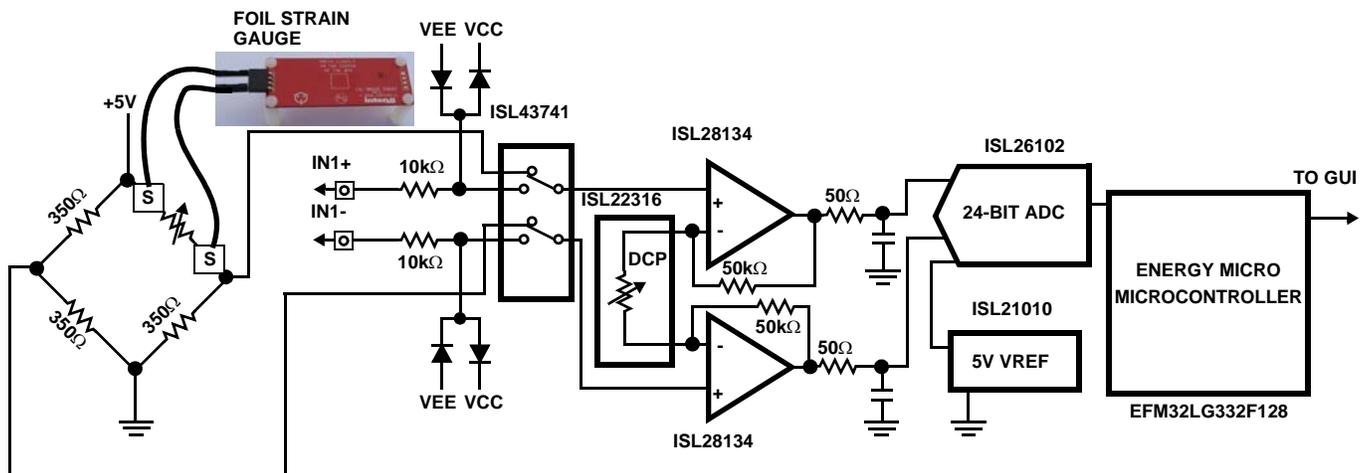
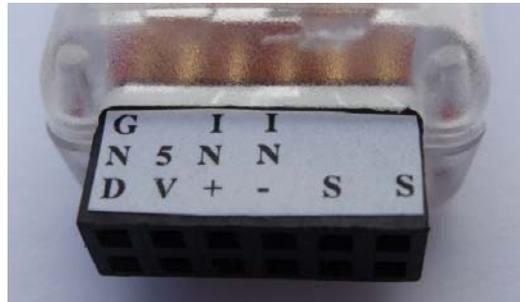
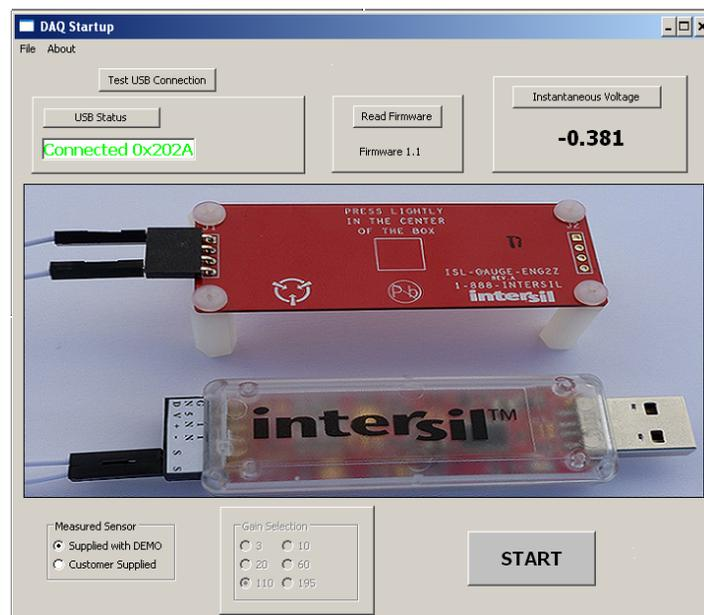
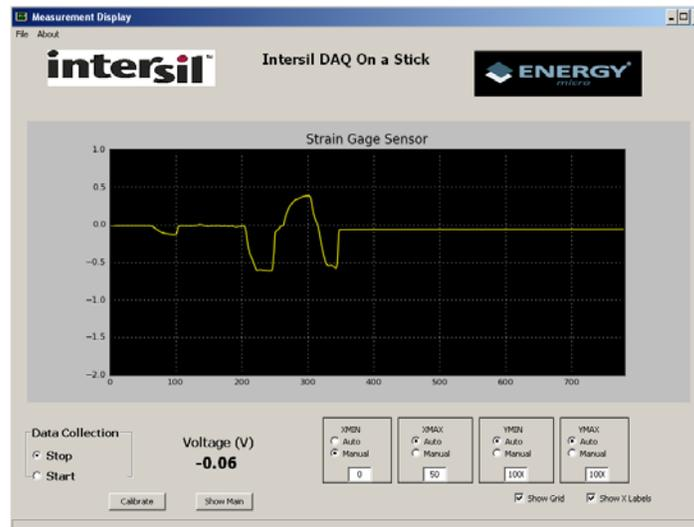

FIGURE 2. SIMPLIFIED STRAIN GAUGE SCHEMATIC
FIGURE 4. SENSOR CONNECTOR
FIGURE 5. GUI START-UP SCREEN
FIGURE 6. GUI MEASUREMENT SCREEN
Figure 2 shows a simplified schematic of the Strain Gauge design. The design uses Intersil’s ISL28134 chopper amplifier, ISL22316 Digitally Controlled Potentiometer (DCP), ISL43741 differential mux, ISL21010 4.096 voltage reference, the ISL26102 24-bit delta sigma converter and Energy Micro’s EFM32LG332F128 microcontroller.
The green LED on the DAQ on a Stick board should be on at this time. When the software starts, the DAQ Startup screen shown in Figure 5 will appear. With the DAQ on a Stick connected, the USB Status indicator will display “Connected 0x202A”. The assigned HID code for this application is 0x202A. This is verification the software is communicating with the board.
From the DAQ Start-up Screen (Figure 5), the user can click on the Instantaneous Voltage button to get a single voltage reading, select the sensor input they want to measure and adjust the gain of the amplifier, or click the Start button to go to the Measurement Display screen, as shown in Figure 6. At this point the green LED on the board will go off.
The ISLEM-BDGSTKEV1Z reference design gives the user the option to measure the strain on a foil gauge (supplied with the evaluation board) or connect their own sensor and monitor the voltage reading on the GUI screen. The user will select the “Supplied with the Demo” sensor or “Customer Supplied” sensor by clicking the appropriate radial button at the bottom left side of the GUI (reference Figure 5).
Figure 4 shows the external connector inputs, which are used to connect the sensor to the circuit shown in Figure 2.
1. To connect the foil gauge supplied with the evaluation board, plug the wires into the “S” ports shown in Figure 4 (either top row or bottom row, the columns are connected). Note: a resistor has no polarity and therefore which wire is connected to a specific “S” input doesn’t matter.
2. Connect the opposite end of the wires to the far edges of the foil gauge board as shown in Figure 5.
1. To connect a “Customer Supplied” sensor, plug the wires into the IN+ and IN- ports shown in Figure 4, then select the “Customer Supplied” option, as shown in Figure 5. This will cause the ISL43741 differential mux to switch the inputs. Once the customer supplied option is selected, the user will have the option of changing the amplifiers’ gain for the best measurement by clicking on the radial buttons in the Gain Selection Box located on the DAQ Startup GUI.
Once the sensor to be measured is selected on the Setup screen, click on the START Button to proceed to the measurement screen. Figure 6 shows the Measurement Display screen. The Calibrate button located at the bottom left of the screen enables the User to zero out the strain measurement. This is required because the deflection of the strain gauge board does not always return to the same point after being flexed. By calibrating this error out, the user can get an accurate reading for the force being applied during any single event. Also from this screen, the user can stop and start data collection and adjust the minimum and maximum X & Y axis. The User, if using a Customer Supplied sensor, can go back to the set-up screen to change the value of the gain by clicking on the Show Main button at the bottom of the measurement screen. The User can then return to the measure screen by clicking on the START button.